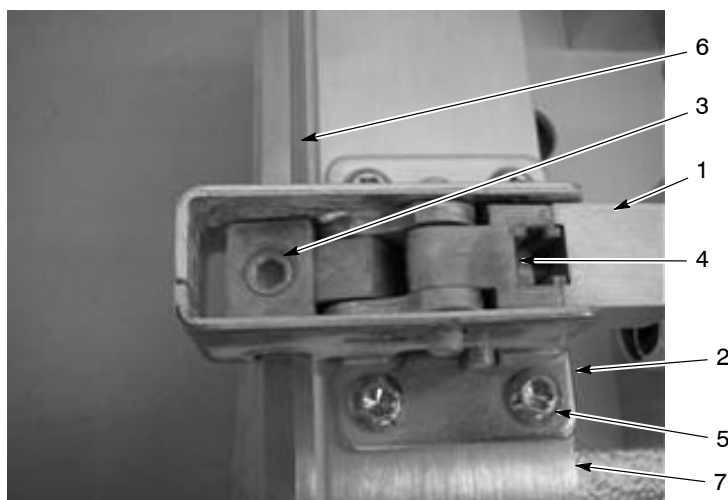

Figure 8-2 Latch Replacement
3. See Figure 8-2. Grasp the cylinder clevis and pull the cylinder shaft out to the fully extended position to extend the latches and provide access to the latch set screws (3).